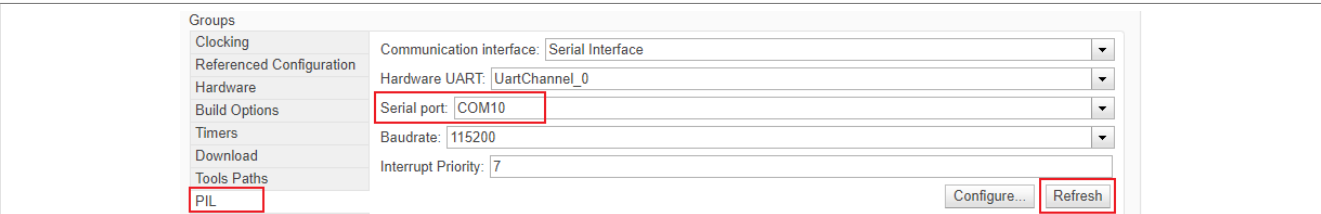

Figure 20. PIL communication setting
7. At the item “PIL”, click “Refresh” to generate the EB tresos configuration files. Then set the “Serial port” as identified in the “Device Manager” and set the other combo box the same as in Figure 20.